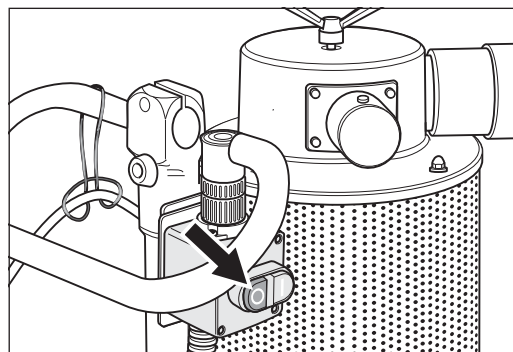

Fig. 22 To **switch** the machine **off**, push the **red** button **(0)** on the switch.
- 2 Push the red button **(0)** on the ON/OFF switch (fig. 22).